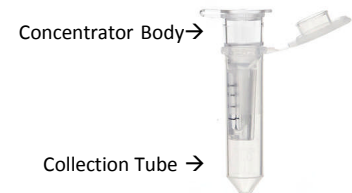

Figure 1: Diafiltration Spin Column
2. Add 50-500 μL to the diafiltration concentrator body (Figure 1) and place into the centrifuge with an appropriate balance. Make sure the concentrator body lid is closed.